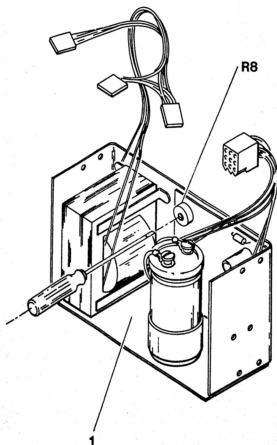

FIGURE 2. POWER SUPPLY ADJUSTMENT
2. Adjust potentiometer R8 (see Figure 2) on power supply for $+5.0\text{VDC} \pm .1\text{VDC}$ as measured on the logic P.C.B. per above diagram.